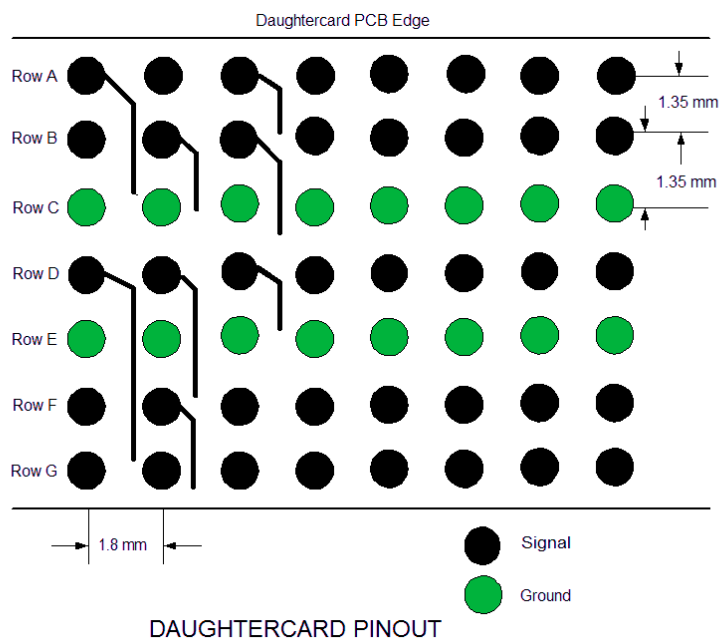

Figure 16. VIPER Daughtercard Hole Pattern – Single-Ended
5.6.2.1 The available space for routing is determined by the distance between anti-pads. In this example, simulation has determined that the required backplane trace geometry is 8 mil traces with a 12 mil space. Since the backplane is on a 1.8mm x 1.8mm grid, it can be routed in both directions. Based on the VIPER 1.8mm (0.0709”) spacing and reducing the anti-pad width to 38.9 mils, it would leave a routing channel of 32 mils. It is preferable to have a 3 or 4 mil edge-of-trace to edge-of-anti-pad space so that the pair is effectively referenced by the ground plane but in this case, a 2 mil overhang will result Table 5 and Figure 16. This is a tradeoff to keep the anti-pad as large as possible. Remember that the finished hole size for the backplane (22 mils) is larger than for the card (18 mils). Maintaining a 2 mil space on each side of the pair, the amount of space remaining for the differential trace pair itself would be 28 mils.